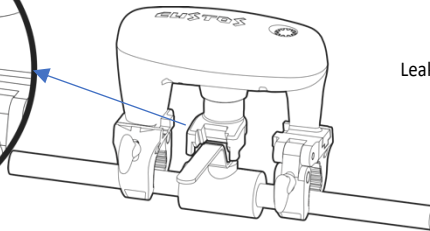

Figure 6B
- Make sure the Knob and Valve Handle are facing on same side. *Refer to “Figure 6B”